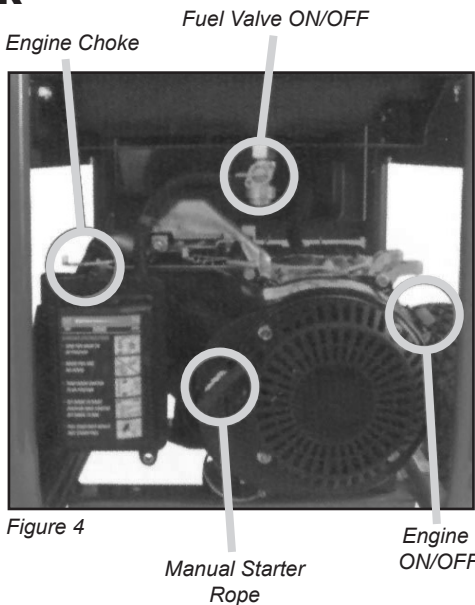

Figure 4
- (a) Turn fuel valve under tank to the ON position (see Figure 4).
- (b) Move choke control lever fully to the right (see Figure 4).
- (c) Select the ON position on the engine ON/OFF switch (see Figure 4).
- (d) Start generator by slowly pulling on the starter rope handle (see Figure 4) until resistance is felt. Then pull cord rapidly to overcome compression to start engine.
- (c) Turn engine ON/OFF to OFF (see Figure 4).
- (d) Turn fuel valve to OFF (see Figure 4).